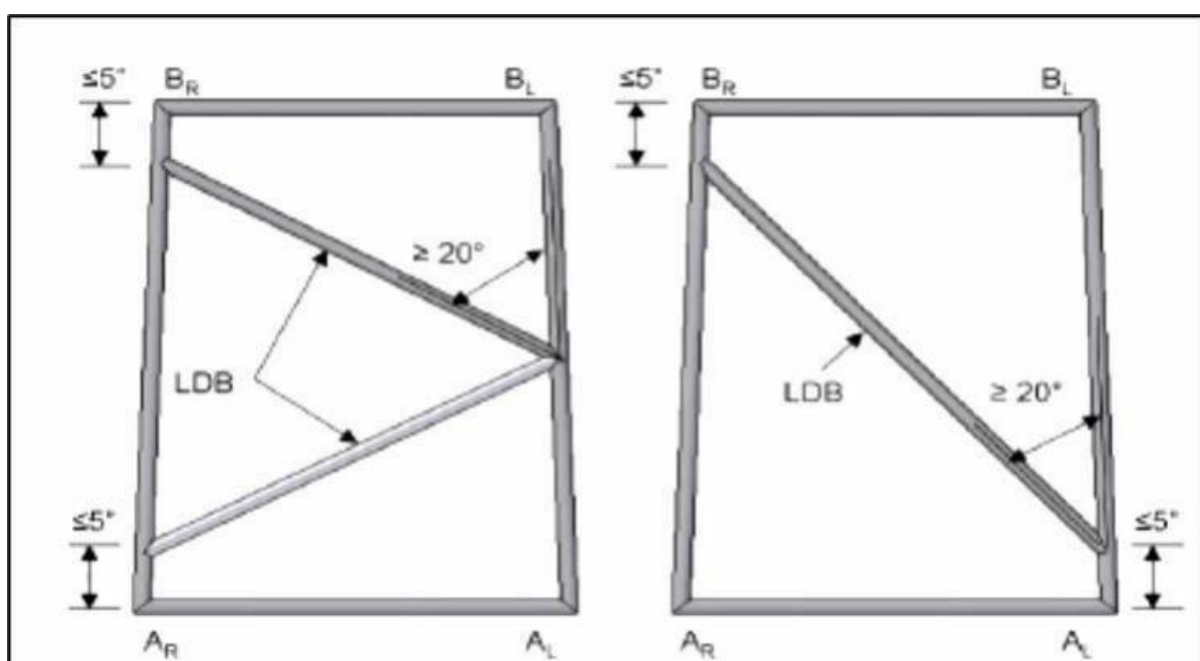

Figure B-14A: Roll Cage, LDB
- ☑ If more than one member is used for LDB (as shown in Figure B-14A), both members must meet at the same point.